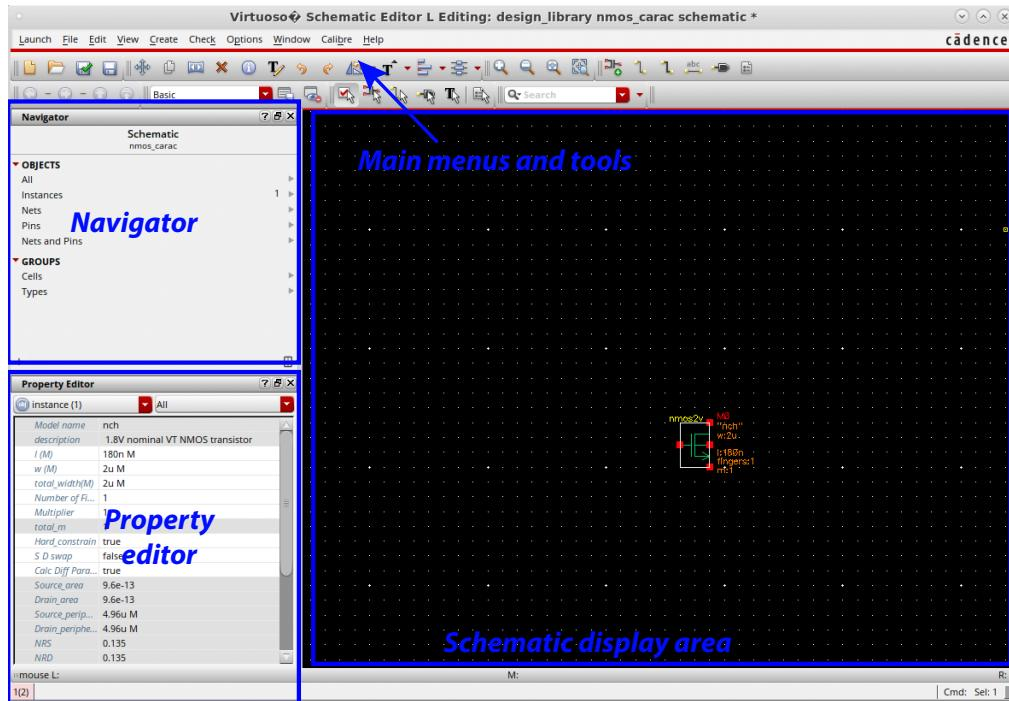

Figure 5: Schematic editor L window.
2. A cell named *nmos\_carac* is now created, with one view called schematic and the Virtuoso® Schematic Editor L window should pop-up, allowing you to edit your new cellview (Fig. 5). The **Navigator** part allows you to quickly browse through all the devices, pins, nets, etc. of your design. The **Property editor** allows you to quickly change the property of the currently selected device. The **Schematic display area** is where you will instantiate all the components, voltage sources, etc.